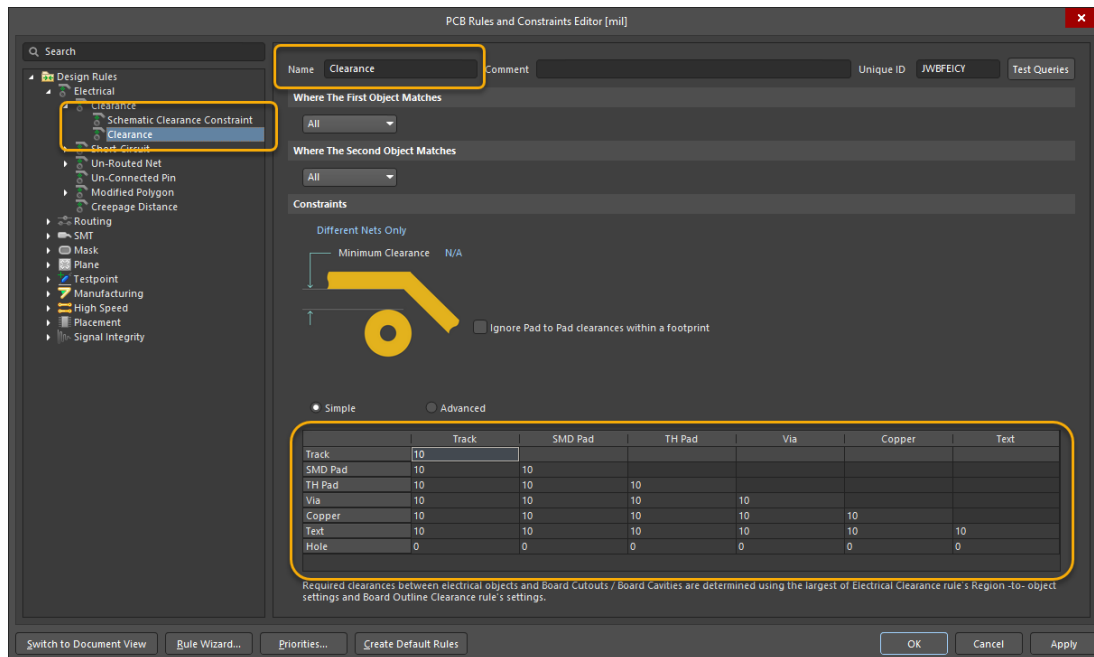

Figure 1. PCB Rules and Constraints Editor
12. The tree on the left lists the rule categories. Expand the *Electrical* rule category. Notice that there are 6 rule types within this category. This can be seen in Figure 1.
- d) Select the second rule to view the rule definition on the right of the window as shown in Figure 1.